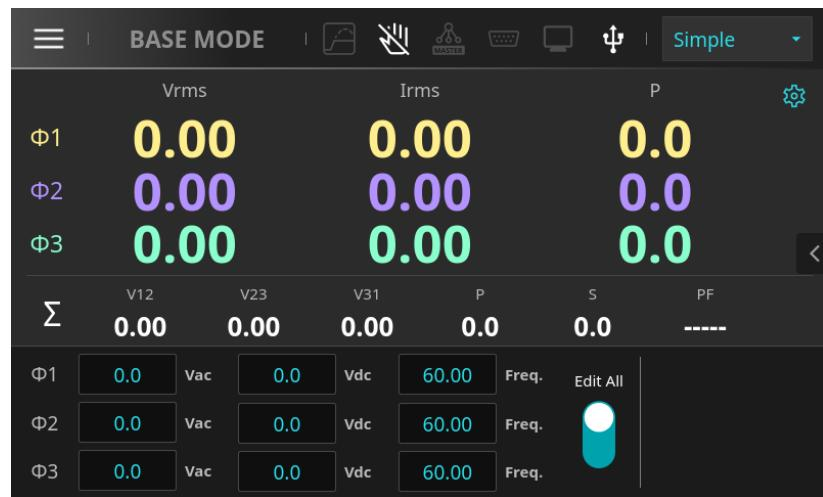

Figure 6-18 Main System Screen (Touch Lock Enabled State)
2. Tap the Stop Touch icon  to enable the touchscreen lock function, as shown in Figure 6-18.